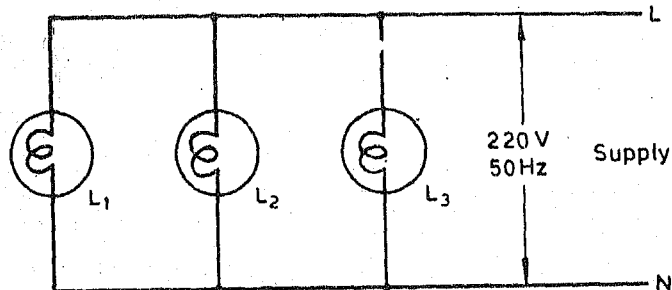

Fig.10.9 Same Voltage is available to all the lamps.
- (iii) All the appliances will have the same voltage when connected in parallel. This is essential so that all the appliances can work on their designed voltage (See Fig. 10.9)